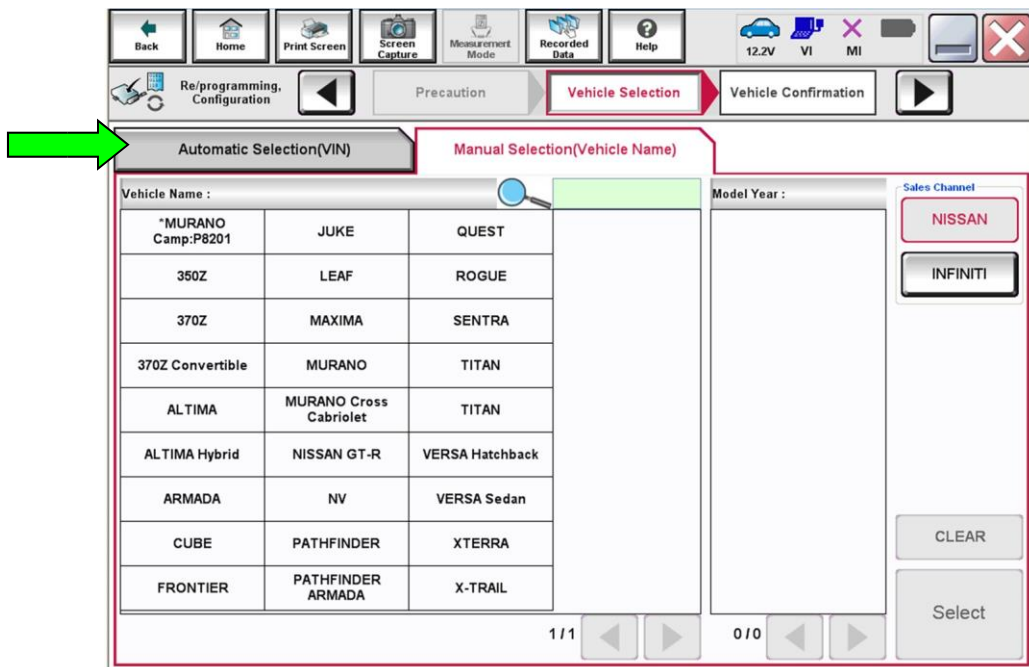

Figure 6
11. If the screen in Figure 6 displays, select **Automatic Selection(VIN)**.
□ If the screen in Figure 6 does not display, skip to step 12.